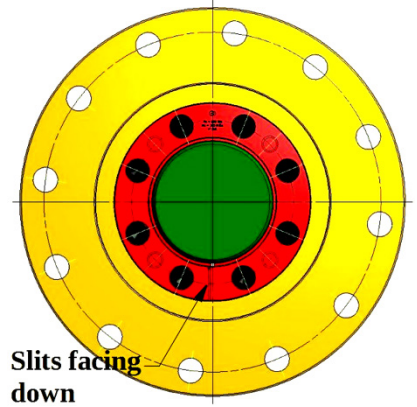
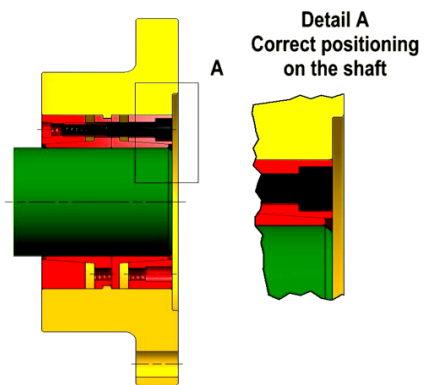

Fig. 4A Positioning of Locking Assembly MAV 7161
Fig. 4B Positioning of shaft
4. By using suitable lifting equipment, slide the complete coupling half with the slits in the Locking Assembly MAV 7161 facing vertically downwards onto the shaft (Figure 4a), until the axial position as shown in Figure 4b is achieved. Relocate screws used for disengagement of rings.